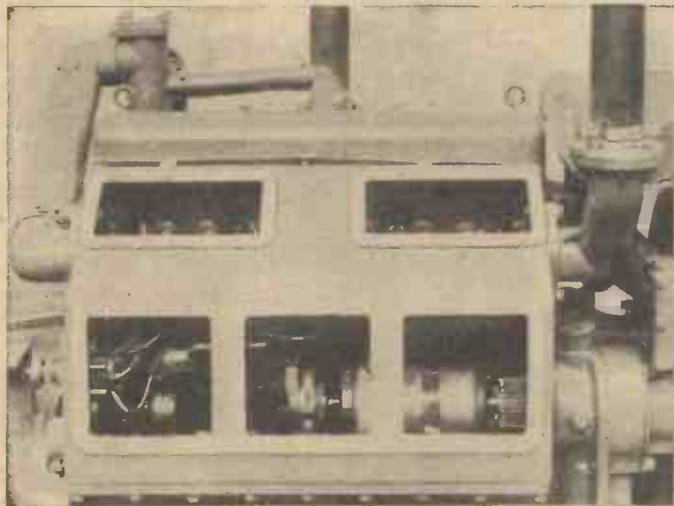
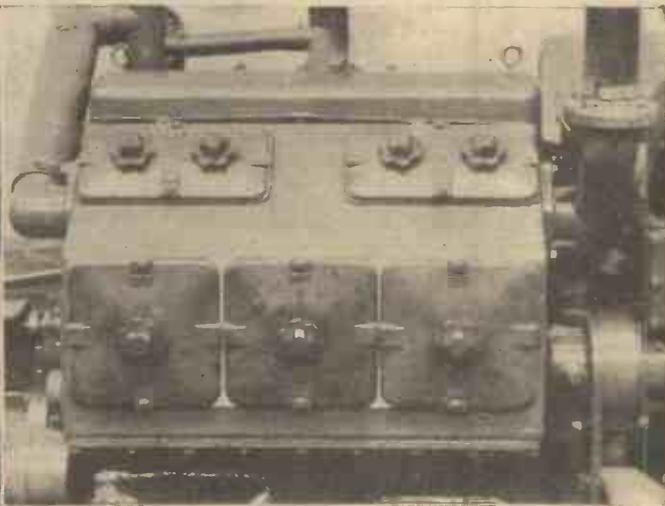

Fig. 16. Housing for ignition equipment, doors removed.
Fig. 17. Housing for ignition equipment, showing doors closed.
(1) Air for the engine enters through an intake at a height of 7 ft. 6 in. from ground level, the exhaust being carried to a similar height. The air vent for the fuel tank is also carried up to the same height as the air intake for the engine.
(2) A large casing of sea water-resisting aluminium is provided on one side of the engine (see Figs. 16 and 17) for the housing of the sparking plugs and other electrical gear which includes dual ignition but does not include the starter motor or battery. Access to this chamber is provided by a series of watertight but easily removable doors (Fig. 17). The air intake for the engine is coupled to the forward end of this casing, thus ensuring that cool air passes over the electrical apparatus inside on its way to the engine.
(3) The driver's control board is enclosed by a casing in front of the operator, again of sea water-resisting aluminium; movement to the outside of the casing for external